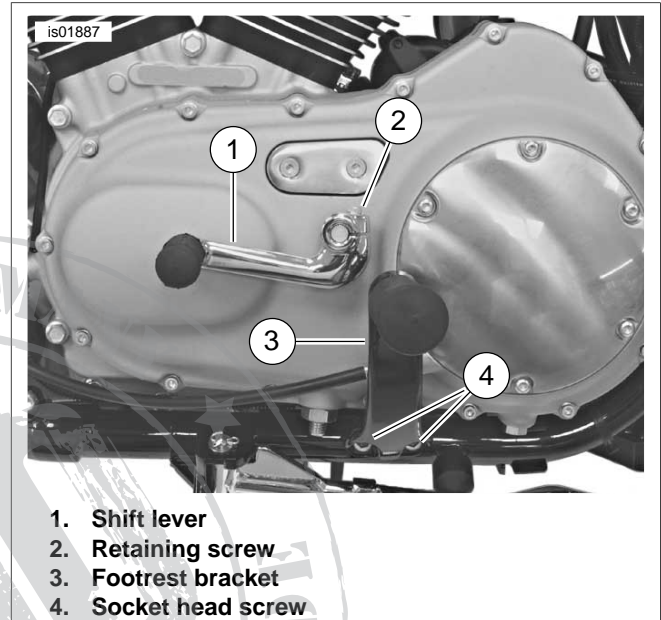
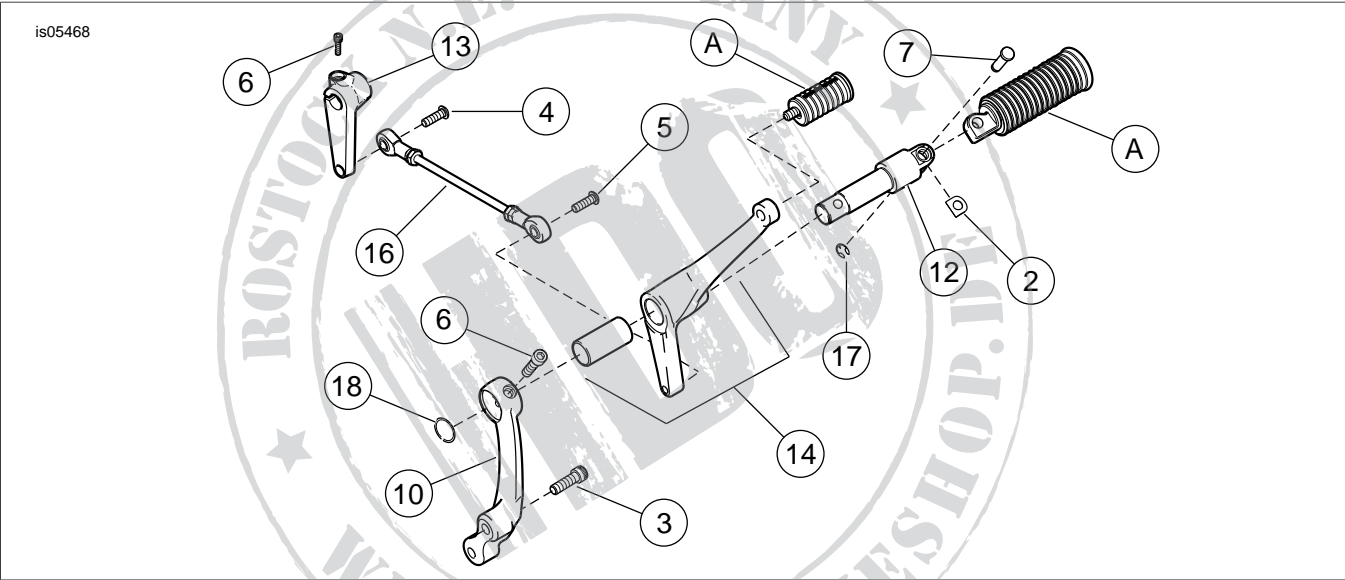
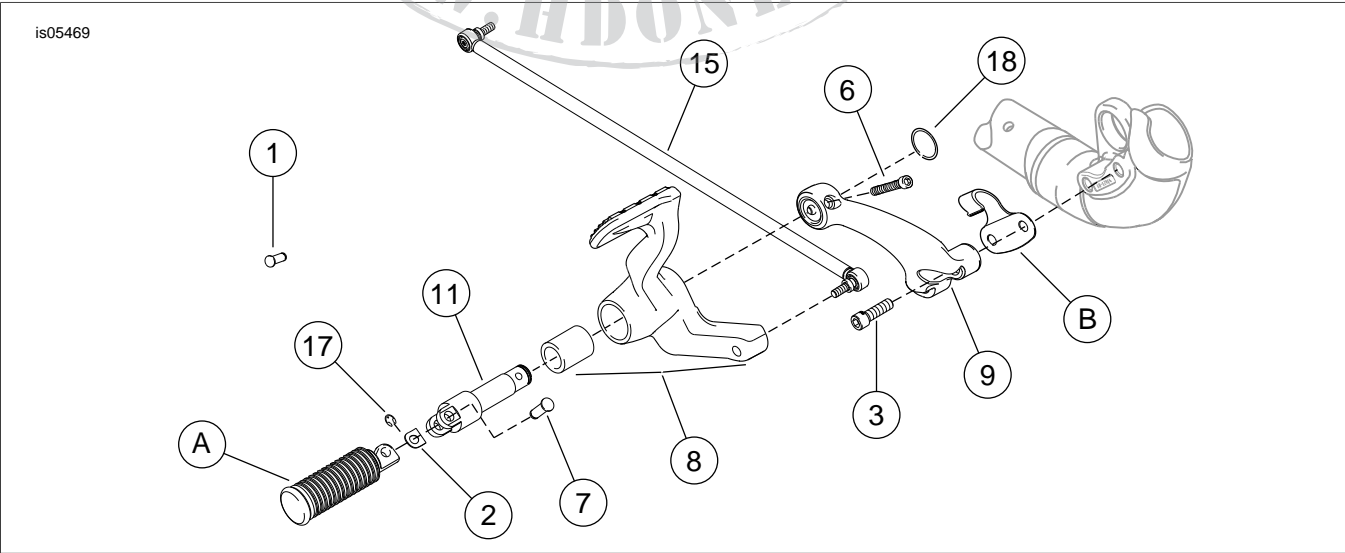

Figure 1. Remove Shift Lever and Footrest
Figure 5. Service Parts: Forward Control Left (Shift) Side
Figure 6. Service Parts: Forward Control Right (Brake) Side
See Figure 5, Figure 6 and Table 1.
1. See Figure 1. Loosen the shift lever retaining screw (2) securing the shift lever (1) to the shifter shaft. Slide the shift lever off the splined shaft. Remove shifter peg from lever and save for installation. Discard shift lever.
2. Remove the two socket head screws (4) securing the footrest bracket (3) to the frame and remove footrest. Discard screws.
3. See Figure 5. Obtain two hole plugs (1) from kit and firmly press plugs into frame screw holes remaining from footrest removal.
- See Figure 5 and Figure 6. Obtain hole plugs (1) and install in holes left from support bracket removal.
- See Figure 6. At the lower front of the right frame down-tube, remove the two screws securing the J-clip (B) to the frame. Discard the screws but save J-clip for installation.
- Obtain the new footrest/brake pedal support bracket (9), new brake pedal assembly (8), footrest mount clevis (11), screw (6) and footrest mount clevis retaining ring (18) from kit.
- Slide the brake pedal (8) onto footrest mount clevis (11) then slide clevis into footrest/brake pedal support bracket (9). Align hole in the clevis with hole in the support bracket and install screw (7). Tighten the screw to 18-22 ft-lbs (24.4-29.9 Nm).
- Install the footrest mount clevis retaining ring (18) to the groove at the end of the footpeg clevis.
- Obtain the two new footrest/brake pedal support screws (3) from kit.
- Position the J-clip (from Step 1) against the frame aligning the mounting holes. Mount the footrest/brake pedal support bracket (9) and J-clip to frame using the new screws (3). Tighten the bracket to 45-50 ft-lbs (61.1- 67.9 Nm).
- Obtain the brake rod (15) from kit and thread one end into the master cylinder bell crank. Tighten to 120-180 **in-lbs** (13.6-20.3 Nm).
- Thread the other end of the brake rod into the brake pedal assembly (8). Tighten to 84-144 **in-lbs** (9.5-16.3 Nm).
- See Figure 5 and Figure 6. Obtain the saved footpeg and obtain new spring washer (2), footpeg clevis pin (7) and footpeg clevis retaining ring (17) from kit.
- Install footpeg on clevis with spring washer (2). Make sure spring washer is positioned inside clevis (11) with the square edge toward the inside. Align holes and push clevis pin (7) from top down through hole in clevis. Secure clevis pin using the new retaining ring (17).
- See Figure 5. Obtain shift link arm (13) and screw (6) from kit. Orient shift link arm pointing straight down and slide onto shift shaft (exiting engine sidecover). Install screw (6) and tighten to 8-13 ft-lbs (11-18 Nm).
- Mount footrest/shift pedal support bracket (10) to frame using screws (3). Tighten to 45-50 ft-lbs (61.1-67.9 Nm).
- Slide shift pedal (14) onto clevis (12). Mount clevis on footrest/shift pedal support bracket (10). Align hole in clevis with hole in support bracket and secure using screw (6). Tighten screw to 18-22 ft-lbs (24.4-29.9 Nm).
- Install retaining ring (18) to the relief at the end of the clevis (12) to further secure it in place.
- Thread screw (4) in far end of the shift rod (16) and into shifter arm (13). Tighten to 120-180 **in-lbs** (13.6-20.3 Nm).
- Thread screw (5) in opposite end of shift rod (16) into shift pedal (14). Tighten to 120-180 **in-lbs** (13.6-20.3 Nm).
- Install footpeg on clevis (12) with spring washer (2). Make sure spring washer is positioned inside clevis with the square edge toward the inside. Align holes and push clevis pin (7) from top down through hole in clevis. Secure clevis pin using the new retaining ring (17).